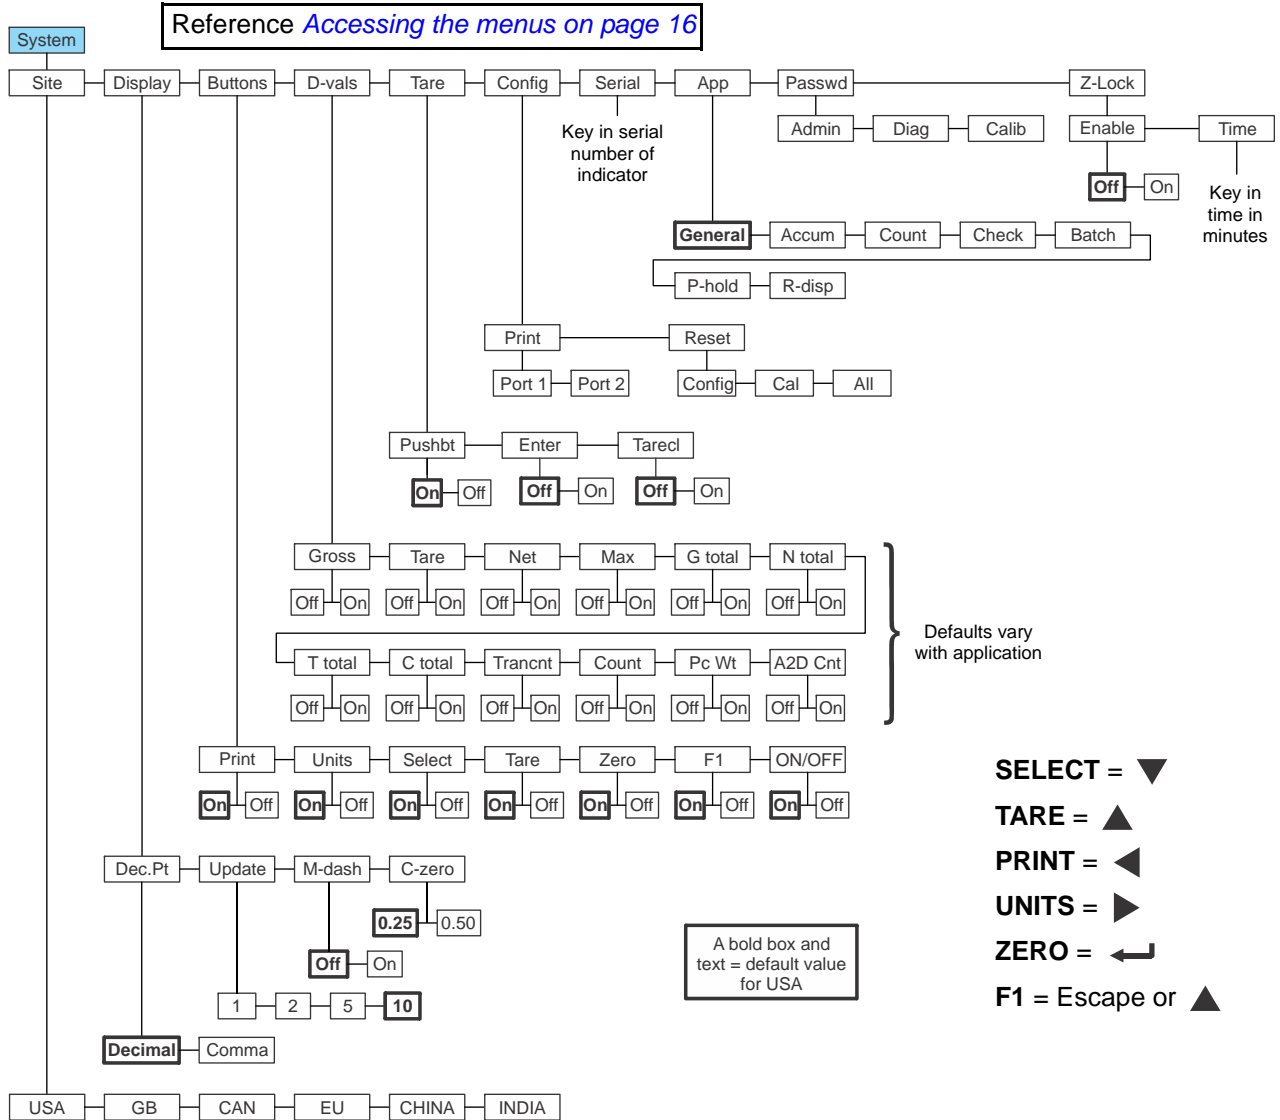

Figure 6.5 System menu
Use the System menu to configure system parameters such as loading defaults for the country of operation, setting available display modes and tare functions, selection of the scale application mode, and several other functions that will be described. Refer to Figure 6.5 as you setup the items of the System menu.
6. Repeat steps 3 through 5 for all the keys you want to change. Refer to the list of buttons in the menu found in Figure 6.5 on page 58. When finished press **TARE ...**